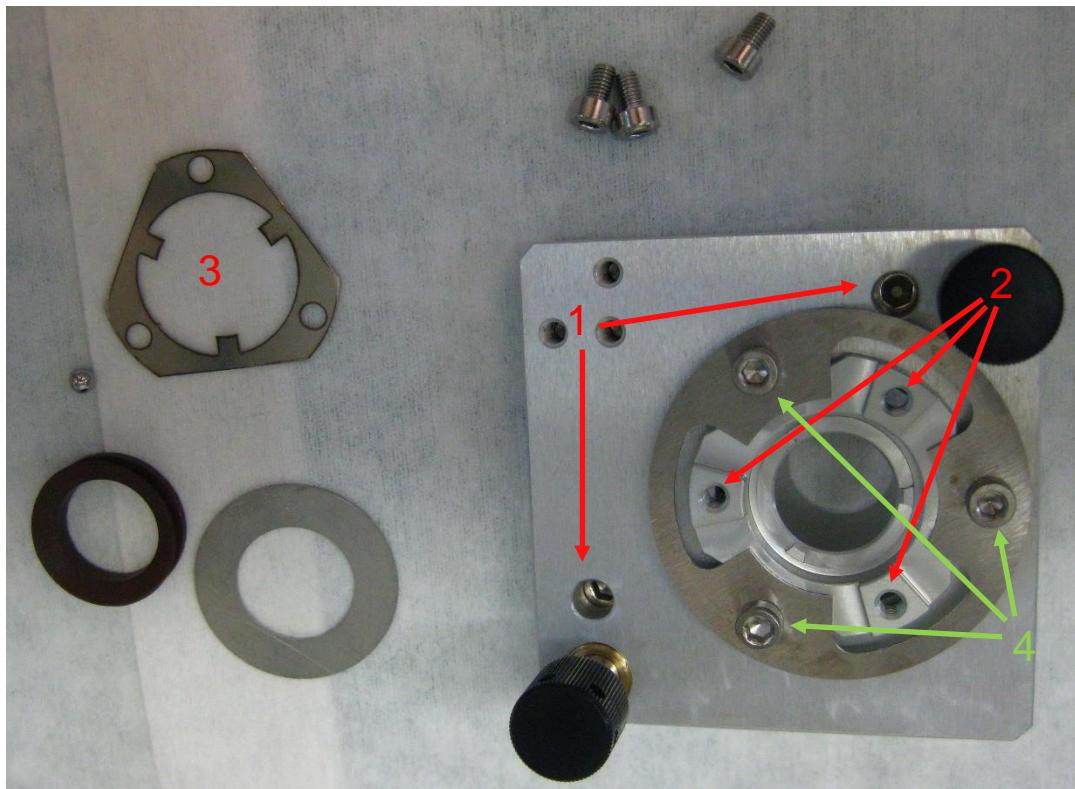

Figure 24 OC holder disassembled
1. Unscrew two screws that are on the OC holder (1 in Figure 24).
3. Remove three screws that are holding metal spring (2 in Figure 24) and remove the spring (3 in Figure 24).
- Release three screws (4 in Figure 24) to loosen OC holder just enough for the holder to move.
12. Tighten three screws (4 in Figure 24) back and check the position of OC again.